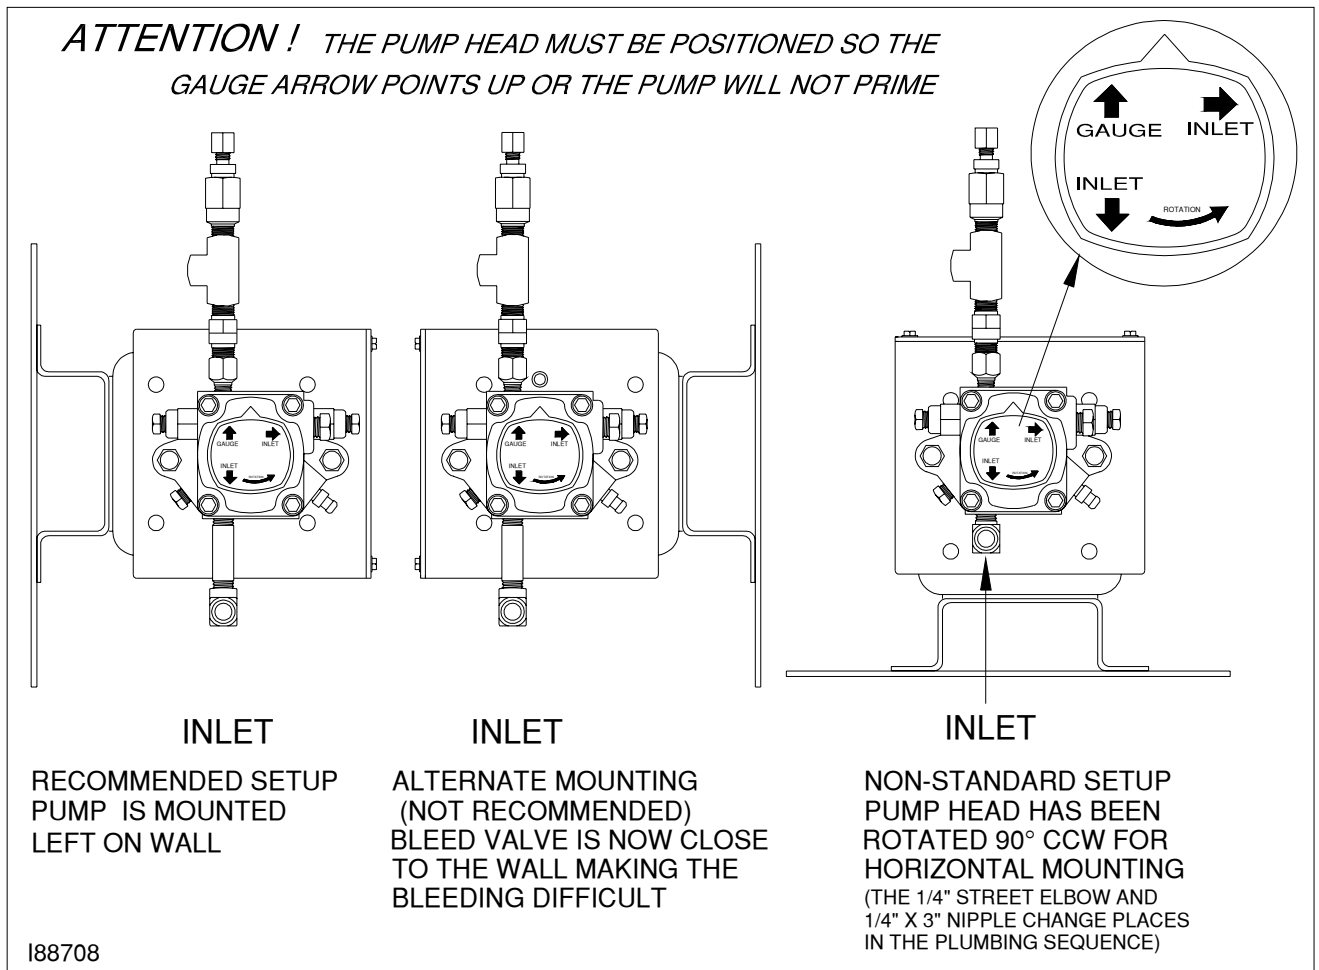

Figure 4I - Proper Positioning of Metering Pump Head
ATTENTION: If the metering pump is to be mounted horizontally or on a bracket as shown in Figure 4I, the pump head must be rotated counterclockwise so that it is aligned in a horizontal position. *The gauge arrow on the pump head must point up, or the pump will not prime.*
3. Rotate the pump head 180 degrees to the horizontal position as shown in Figure 4I.
5. Use the appropriate type of bolts and washers (user-supplied) to securely mount the metering pump to the mounting bracket, which is to be installed on the appropriate wall in your building **at a distance not more than four (4) feet from the tank.**